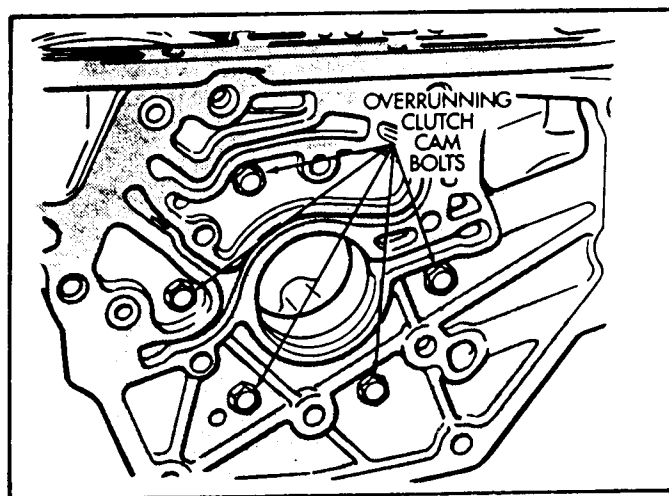

Figure 37
18. Install the five overrunning clutch cam bolts in the positions shown in Figure 37.
20. Torque the five overrun clutch bolts to 13 ft.lbs. (See Figure 37). Note that the cam bolts are shorter than the piston retainer bolts.